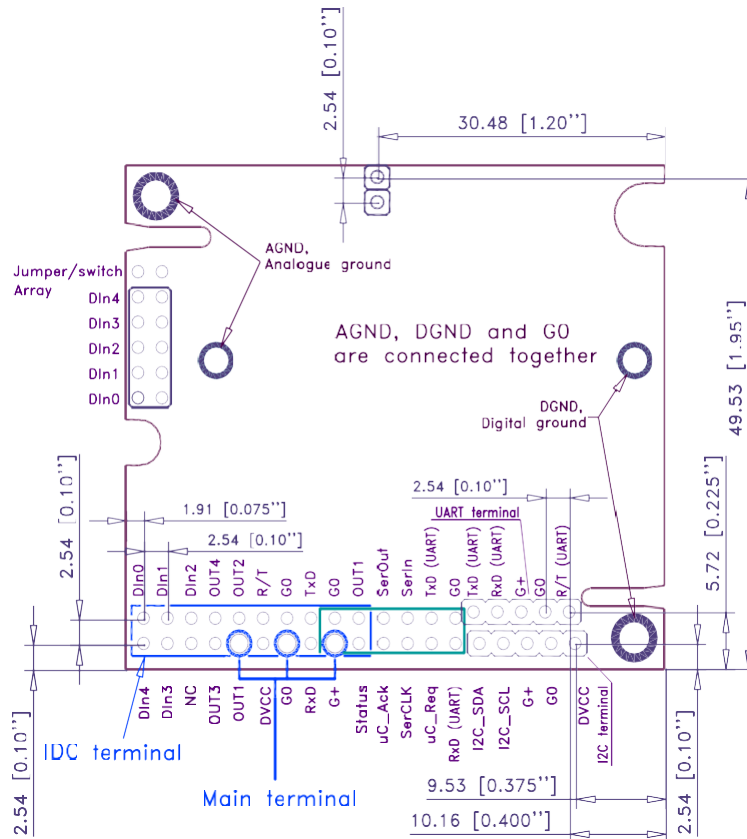

Figure 2 . *CO₂ Engine® K30 FR* I/O notations, terminal positions and some important dimensions for mounting the K30 platform PCB into a host system (Top view).
The table below specifies what terminals and I/O options are available in the general **K30** platform (see also the layout picture Fig. 2). Please note, however, that in the *CO₂ Engine® K30 FR* default configuration, only OUT1, OUT2, Din1, Din2 and Status have any pre-programmed functions. These are described in the chapter “Default Configuration”.
The modules are factory calibrated and ready for use directly after power up. There are several alternative ways to connect the *CO₂ Engine® K30 FR* to a host system (see also figure 2):
- The two screw points in the upper left corner (having the IDC and edge connectors faced downwards, as in Figure 2) are connected to the *analogue* ground. They are the preferred choice for connection to some EMI shield, if so is required. This is normally necessary only if the application is such that large EMFs are foreseen. If this option is being used, precaution must be taken so as to exclude any power supply currents! Sensor reading instability is an indication of the need for shielding, or of improper enclosure system groundings.